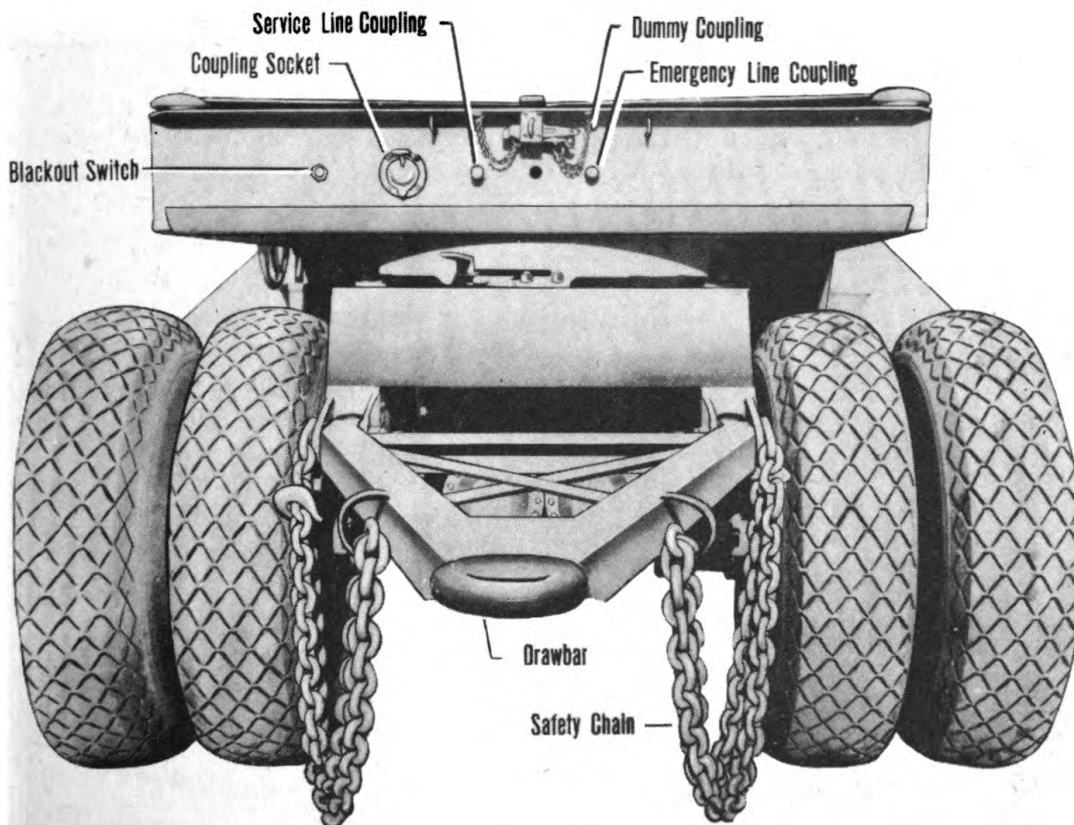

Figure 9—Front of Trailer.
8. Hose couplings (figure 9) are mounted at the service line and emergency line outlets at the front of the trailer to provide a simple means of attaching hose connections from the towing vehicle.
9. Dummy couplings (figure 9), located near the hose couplings at the front of the main trailer frame, are designed for attachment to the hose couplings to prevent entrance of dirt when the hose couplings are not being used.
2. The blackout switch (figure 9) is located at the front of the main unit frame.
3. A jumper cable (figure 10) supplies current to the trailer through a socket (figure 9) on the front of the main unit frame.
The trailer is equipped with a coupling socket (figure 9) in the center of the front cross member of the frame. A jumper cable (figure 10) for connection to the towing vehicle is a trailer accessory.
1. The blackout switch (figure 9) is located on the front cross member of the main frame. It has no "OFF" position. It is either at a blackout position or at a standard light position.